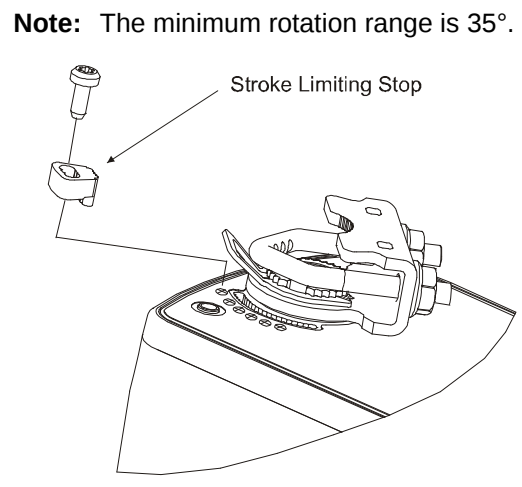

Figure 8: Limiting Rotation Range
- The product label marks hole positions for the M3-0.5 x 8 mm self-tapping screw provided with the adjustable stop kit. Drive the screw through the slot in the adjustable stop and into the actuator face over a marked hole position. (See Figure 8.)